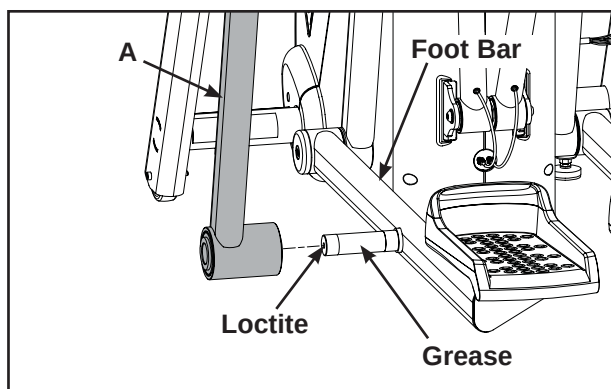
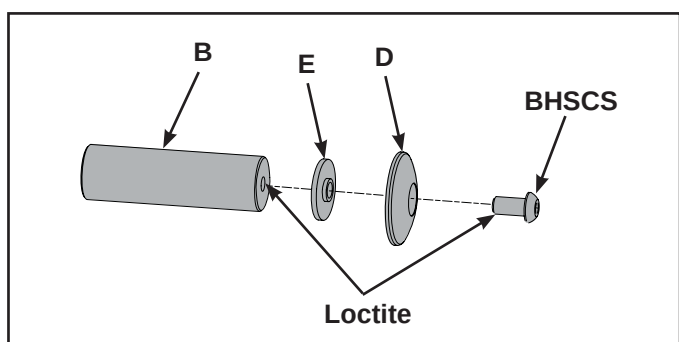

Figure 4
Figure 5
- C. Remove the rear leg from the foot bar. See Figure 4.
- A. Place grease on the outside of the foot bar shaft. See Figure 4.
- B. Place the new rear leg (A) into position on the foot bar.
- A. Place a drop of loctite (F) on the two BHSCS removed in step 4A and another drop inside the new pivot pin (B) shaft where the two BHSCS will be tightened.
- B. Install one BHSCS/loctite, a new spacer (E) and new plastic end cap (D) to one side of the new pivot pin (B). See Figure 5.